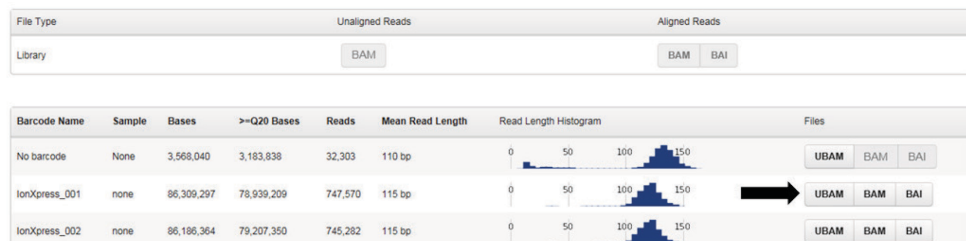

Figure 7. Unaligned reads in BAM format.
- Click the **UBAM** button in the row corresponding to the individually indexed samples and column labeled **Files** in the table (Figure 7). These are the unaligned reads in BAM format, with the index separated for each sample. Save the .ubam file to a local disk. The file is usually several hundred megabytes to several gigabytes, depending on the size of the sequencing chip being used.